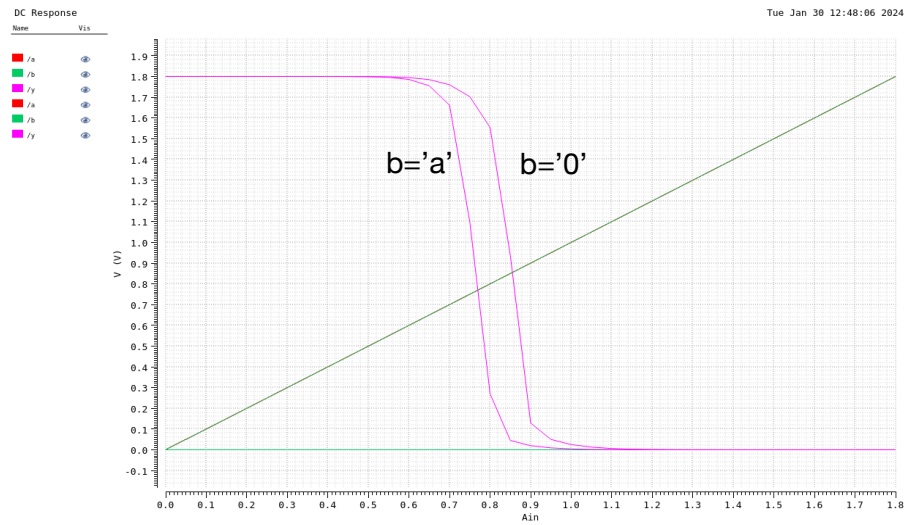

Figure 2. DC simulation results of nor2.
The switching characteristics of the nor2 cell were simulated by using the DC simulation tool and the Spectre simulation software. Figure 2 shows the output 'y' (shown in pink) versus the input 'a' (shown in green) for two cases: (1) input 'b' was held fixed to 0 V and (2) input 'b' was equal to 'a' as the input was swept from 0 V to VDD in 0.05 V increments. In both cases, the output switches from VDD to 0V as expected and prior to 'a' reaching the midpoint (0.9 V). This “early switching” indicates that the strength of the pull-down network is greater than the pull-up network, which is accentuated in the case where 'b'='a'.